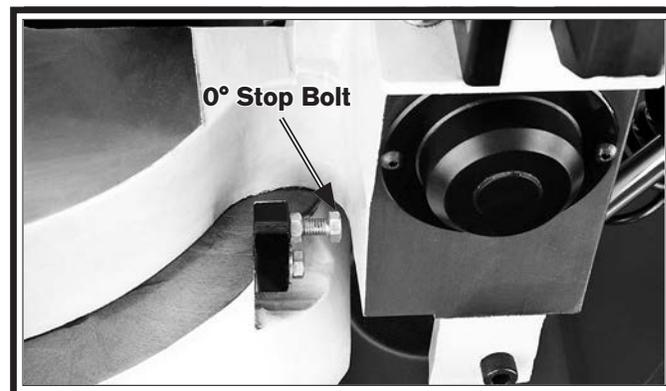

Figure 40. 0° Angle stop.
2. Rotate the headstock to the right approximately 10°, engage the 0° angle stop (**Figure 40**) by flipping it up, then rotate the headstock to the left until it stops against the 0° stop. Tighten the headstock lock lever.